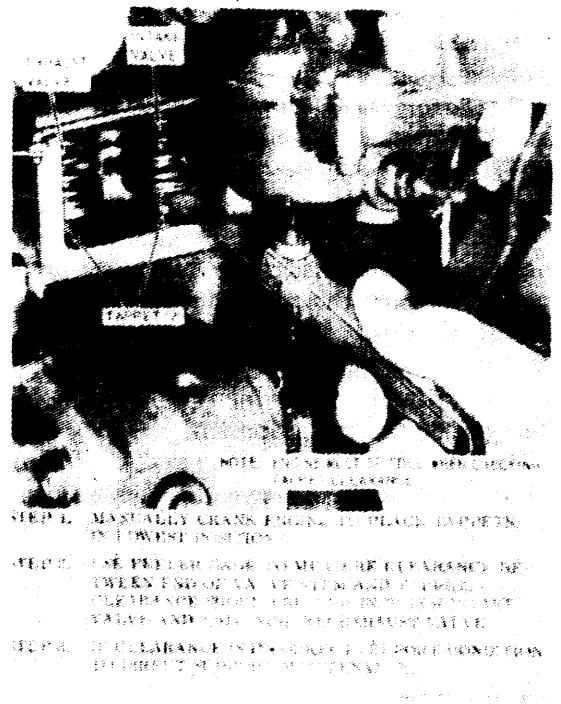

Figure 32. Checking valve tappet clearance.
b. *Checking Valve Tappet Clearance.* Refer to figure 32 and check valve tappet clearance.